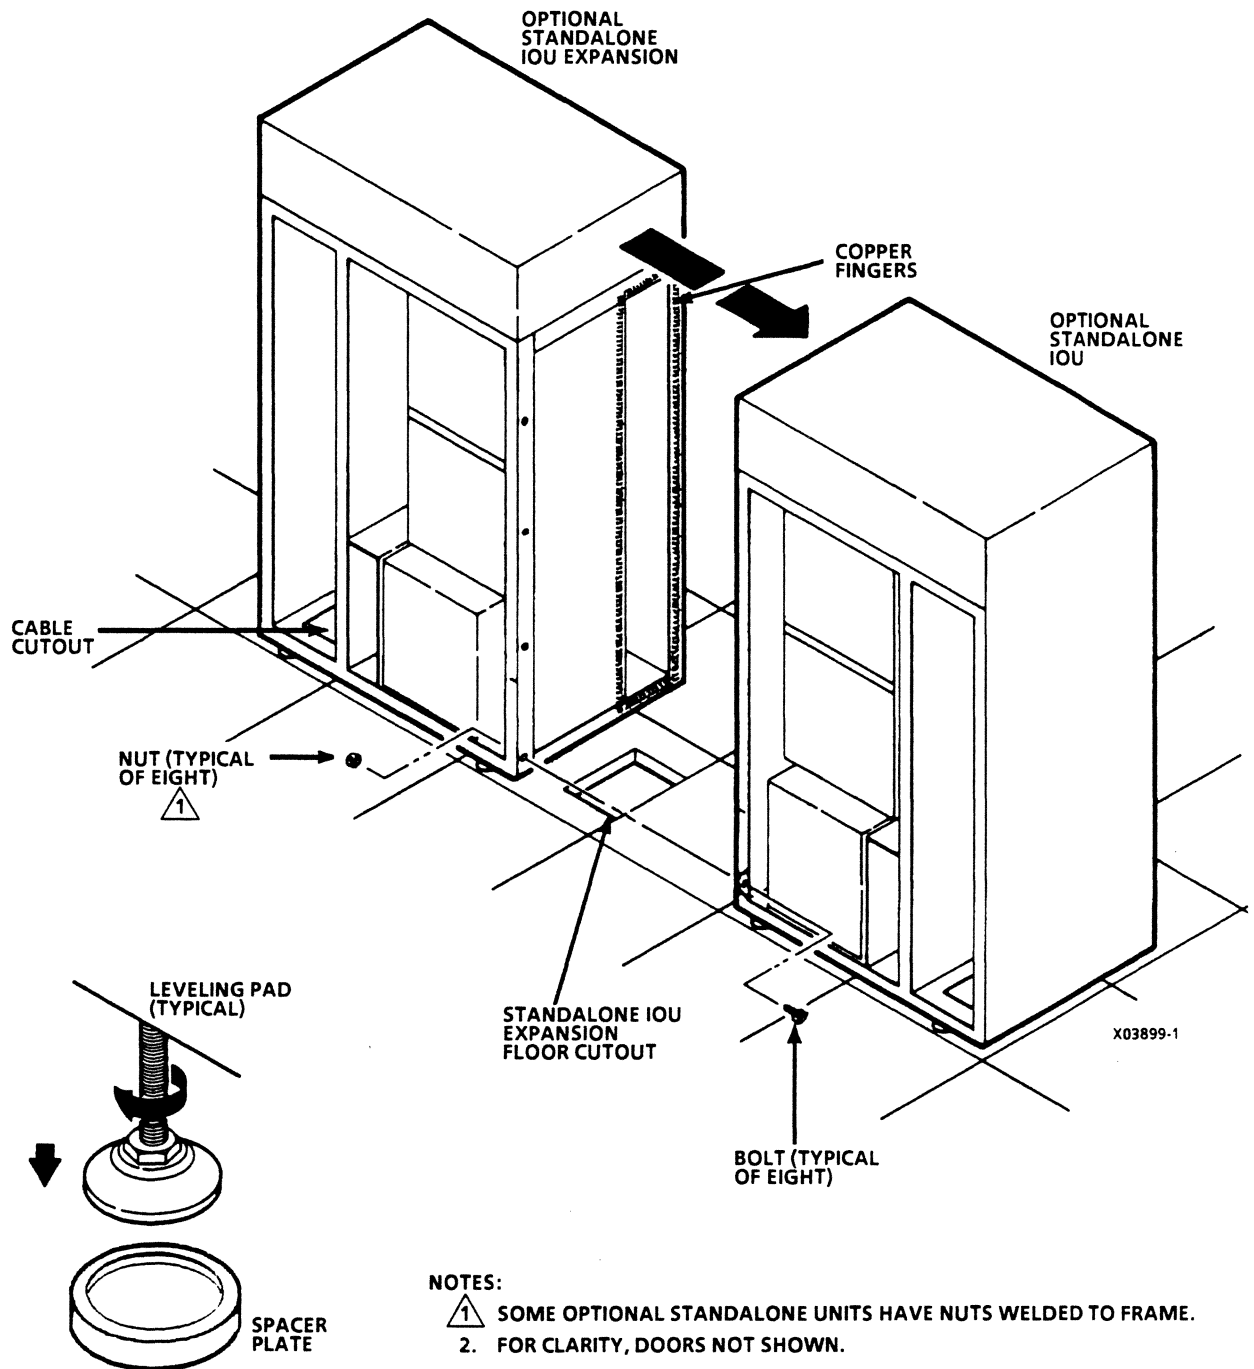

Figure 2-14. Optional Standalone IOU Expansion Bolting
- ___ 2. Inspect copper fingers around interface openings on standalone IOU expansion (figure 2-14). Replace any 25 mm (1 in) or greater section of adjacent fingers that are missing or deformed and will not compress between units. (Replacement copper fingers are supplied with equipment.)